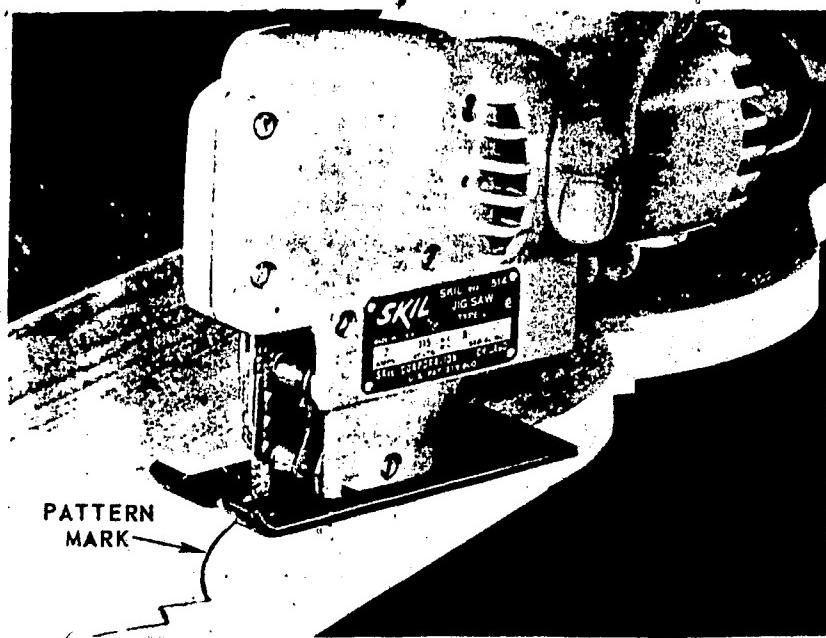

Fig. 5-12. Sawing curved cuts with a portable jig saw (saber saw). (Skil Corp.)
**Portable Jig Saw -** This machine, also called a SABER SAW, is designed to be moved around over the work. The blade is heavier than in the table model jig saw and makes a rougher cut. It cuts through 3/4 in. stock with ease. The saber saw is especially useful where curves need to be cut in long stock, figure 5-12.